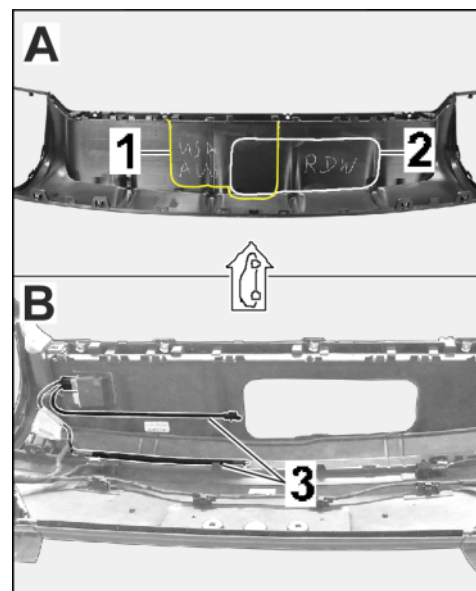

Figure 5
- 1.8.2 Mark the cut-out for the ball hitch (removable – USA) at the impression on the inside of the rear apron (⇒ *Figure 5 -A-*).
- 1.8.3 Carefully make the cut-out along the marking (example for 1D3: ⇒ *Figure 5 -B-*, 1D6 accordingly).